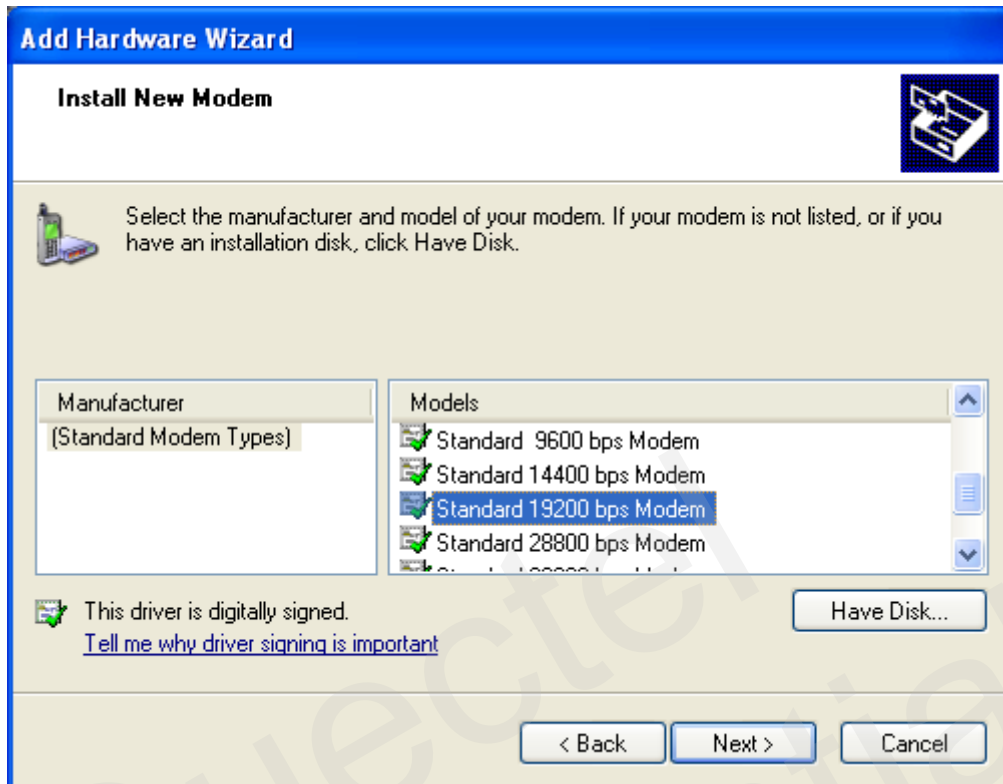
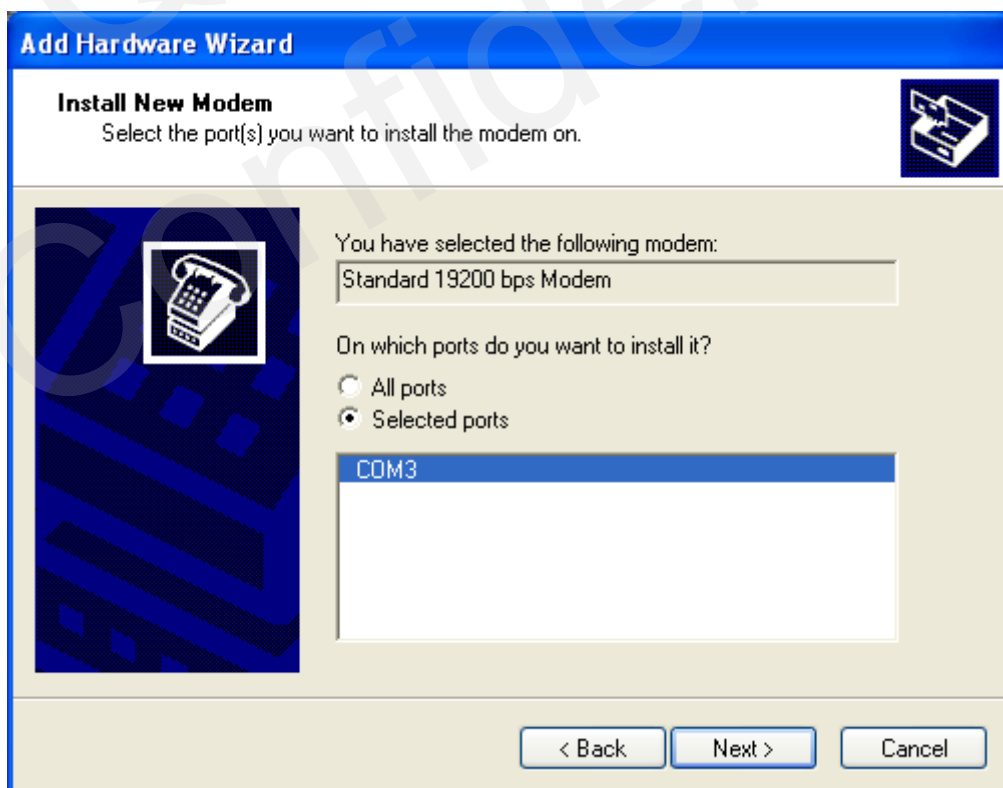
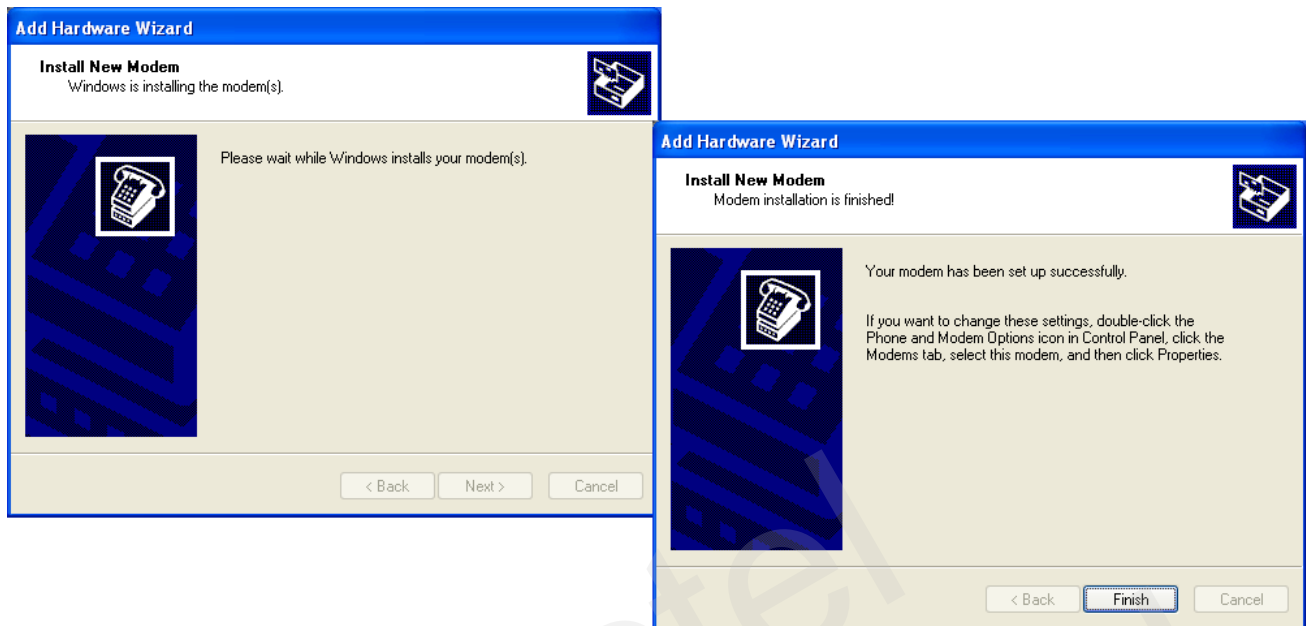

Figure 6: Select Model of the Modem
Figure 7: Select a Port
Figure 8: Successful Installation
3. Install the new modem, refer to the instructions on the screen, select "**Standard 19200 bps Modem**" and a port (COM3) which will be installed, click "**Next**" button, till the configuration is finished. Refer to Figure 6, Figure 7 & Figure 8.